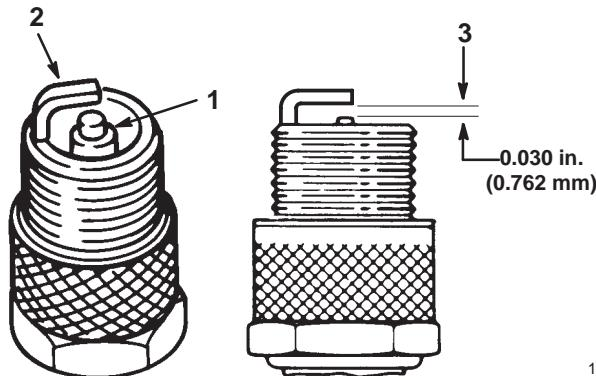

Figure 28
1. Look at the center of the spark plug (Fig. 28). If you see light brown or gray on the insulator, the engine is operating properly. A black coating on the insulator usually means the air cleaner is dirty.
2. Check the gap between the center and side electrodes (Fig. 28). Bend the side electrode (Fig. 28) if the gap is not correct.